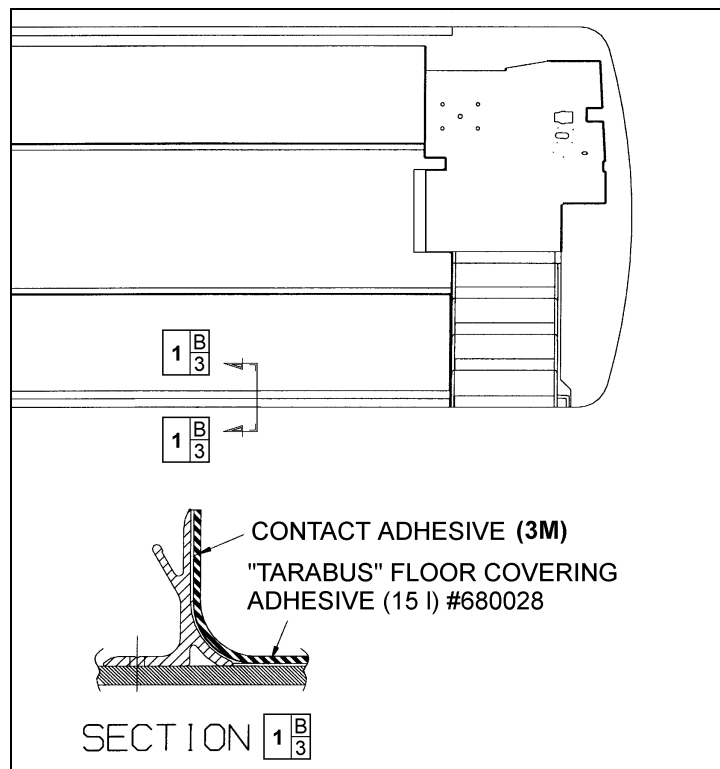

FIGURE 34: TARABUS FLOOR COVERING ADHESIVE APPLICATION
6. Apply floor covering adhesive (680028) onto plywood using a serrated spreader with 1/8-inch serration. If required, apply contact adhesive (3M) (684655 or 684654) onto aluminum molding and also onto section of floor covering, which will be in contact with molding (refer to Figure 34).